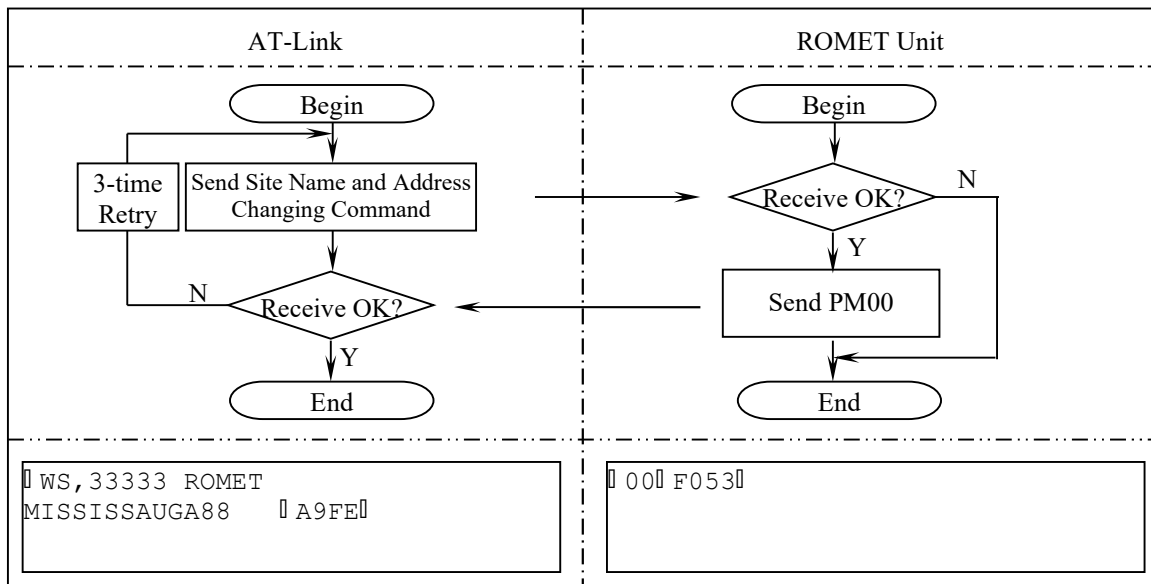

Figure 7-9. Site Name and Address Changing Flow Chart
7.10 Site Name and Address Changing (Figure 7-9)